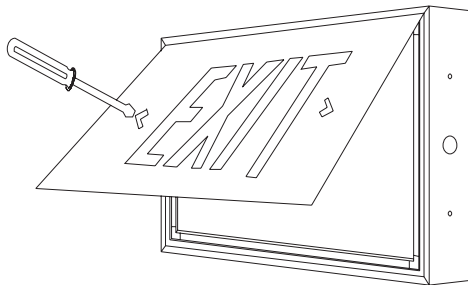

FIGURE 4
6. Secure the exit to the wall or ceiling using the supplied 1½ inch screws and nuts. Screw directly to junction box if possible. A universal spider plate is supplied to allow for exit sign placement adjustment or connection to a variety of electrical boxes (Figure 4).